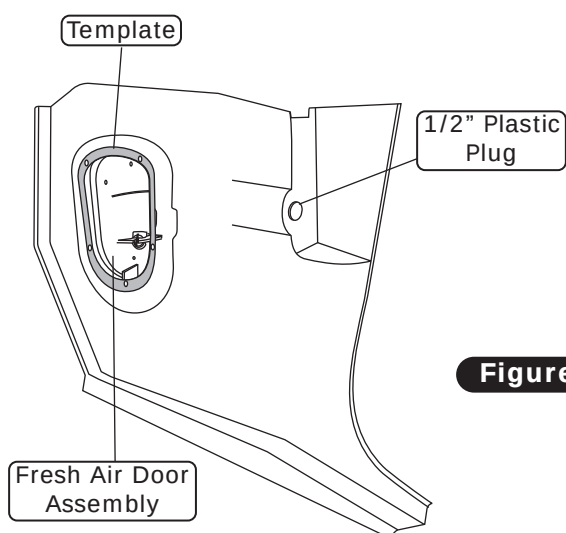

Figure 2
2. Install 1/2" plastic plug to fill the hole left from the removal of the pull cable assembly (See Figure 2, below).
3. Place the template provided on Page 33, onto the kick panel as shown in Figure 2, below.
2. From the center of the bottom-left hole on the kick panel cover, measure 1 ½" down. Mark and drill a 5/8" hole for the 7/8" grommet (See Figure 2, below).
1. Install 7/8" plug into OEM hole on firewall (See Figure 2, below).
3. Secure the fresh air cap to the firewall using (2) #14 x 3/4" sheet metal screws (See Figure 2, below).